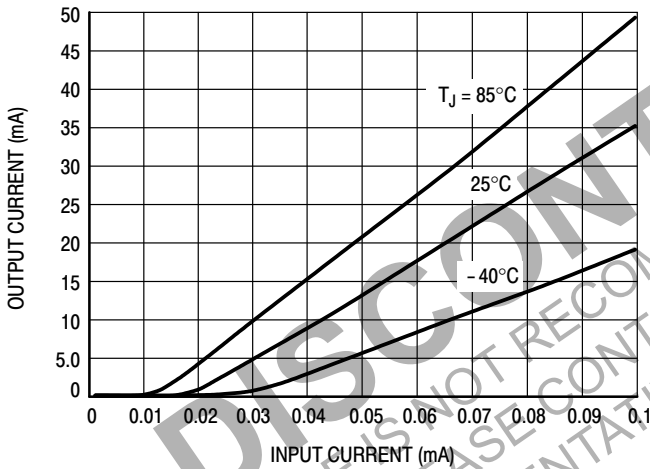

Figure 4. Threshold Effects
- For levels of input current below  $100\ \mu\text{A}$ , use the input threshold curves of Figure 4 to verify that there will be adequate input current available to turn on the MDC3105 at all temperatures.